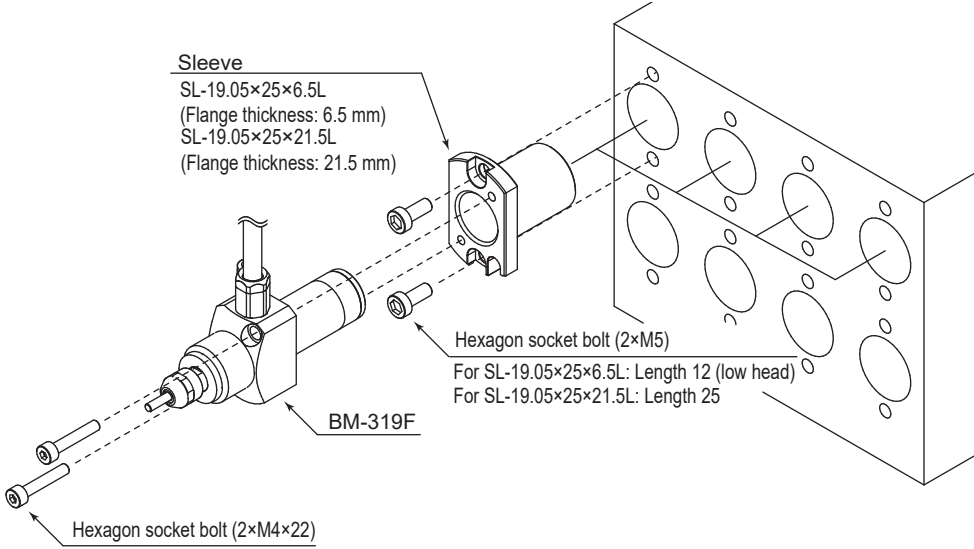

Fig. 3
- ① Insert this sleeve into the CNC lathe’s holder.
② Align the two mounting holes on the sleeve with those on the holder. Secure it using two M5 hexagon socket bolts.
③ Insert the body of the motor spindle into the sleeve.
④ Align the two mounting holes on the motor spindle’s flange with those on the sleeve. Secure it using two M4 hexagon socket bolts (see Fig. 3).